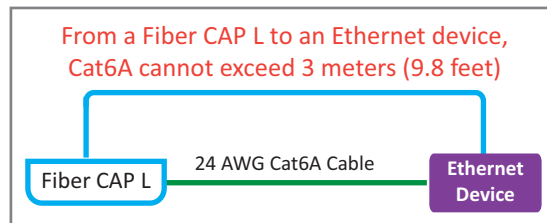

Figure 5. Maximum Cat6A Cable Length between a Fiber CAP L and an Ethernet Device
- The maximum attached cable length from Port A on the Fiber CAP L to the Ethernet device is 3 meters (9.8 feet); see Figure 5.